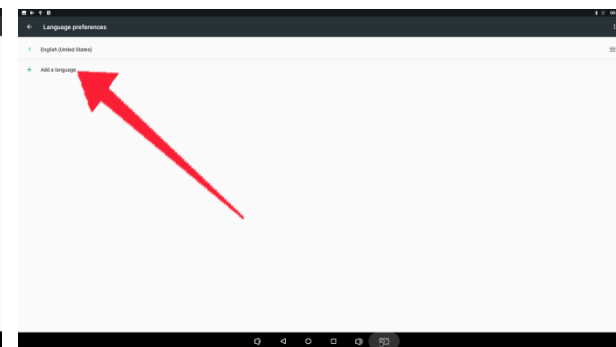

Fig. 4
3. You can add the required system language (Fig. 4)